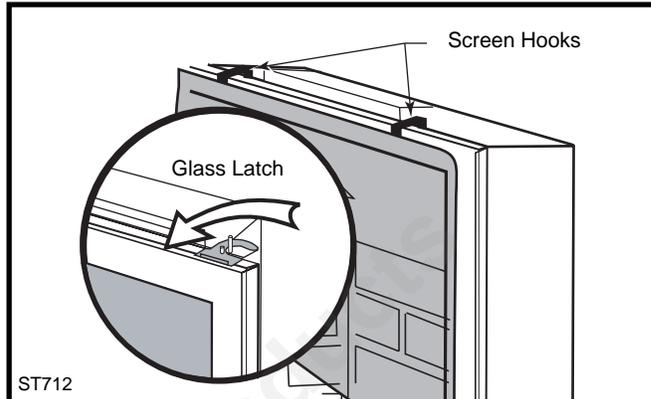

Fig. 34 Remove the screen or glass panel.
3. Remove the screen by lifting up and away from the unit. Or, if so equipped, remove the glass panel by rotating the two cams toward the front of the firebox. Lift the panel up and off of the firebox frame. (Fig. 34)